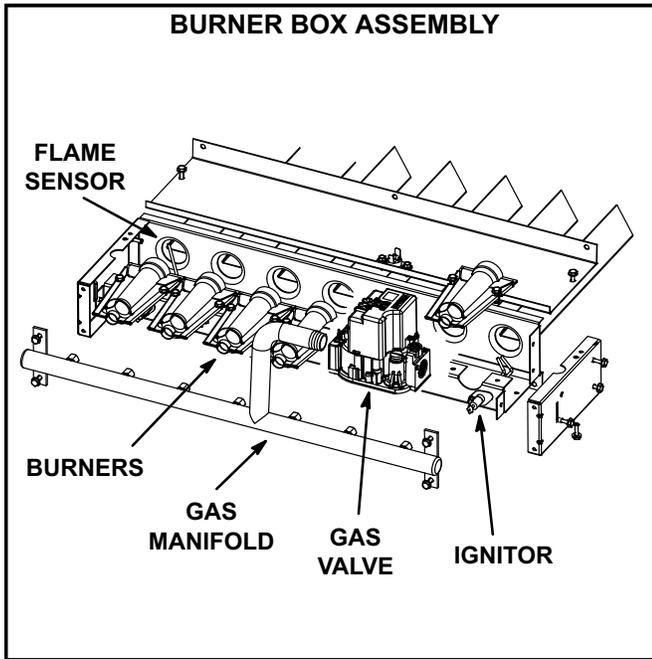

FIGURE 21
- Remove two screws securing burners to burner support and lift the burners from the orifices. See figure 21. Clean as necessary.